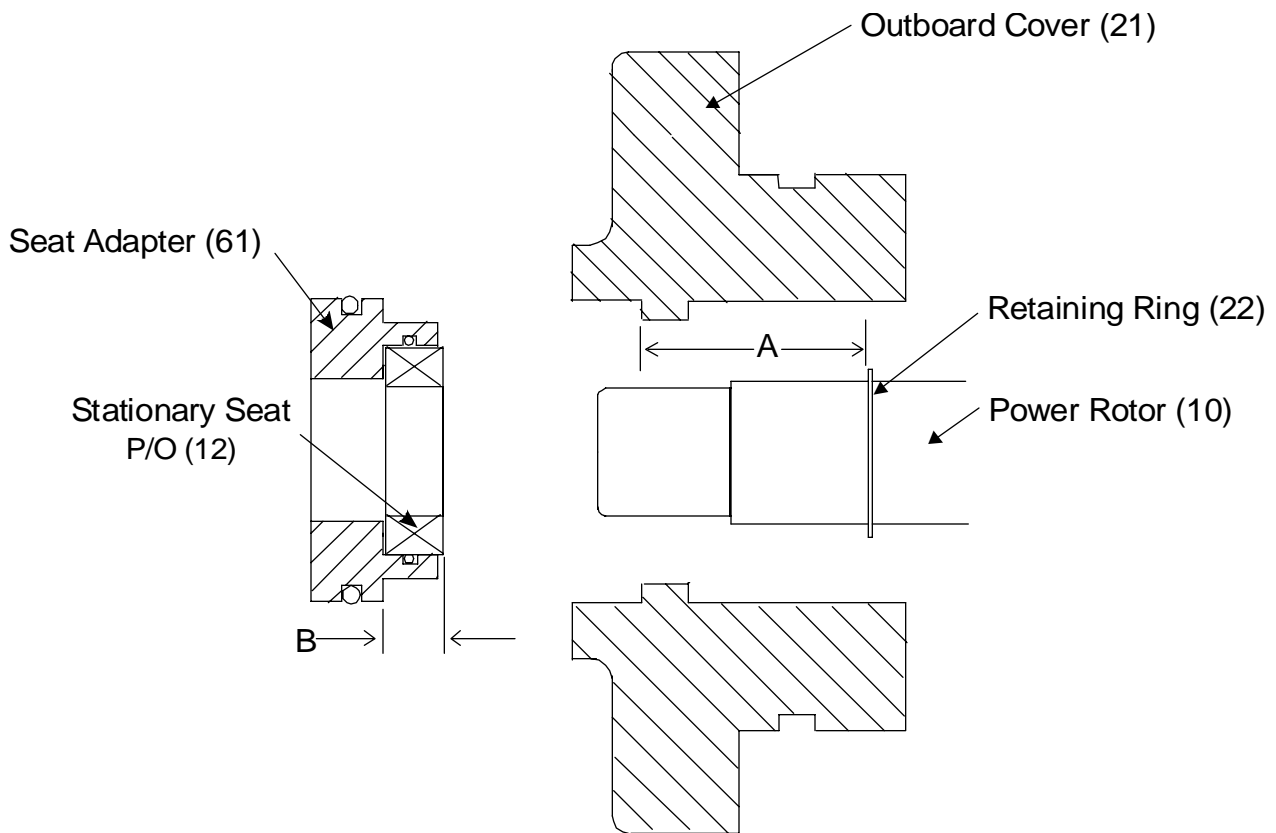

Figure 4 – Shim Thickness Measuring
To find the proper shim thickness perform the following. See Figure 4.
- To determine dimension "A", (Figure 4). Measure distance from counter-bore of outboard cover (21) to installed retaining ring (22).
- To determine dimension "B", (Figure 4). Install seal stationary seat (insuring that the anti-rotation pin is properly seated), and O-ring in seat adapter (61). Measure distance from shoulder of seat adapter (61) to face of seal stationary seat.
- Subtract measurement "B" from measurement "A" and add 0.010 inch . From this dimension, subtract the working length of the mechanical seal (1 3/8 (1/64 inch). The resulting dimension will be the proper thickness of shim (23).